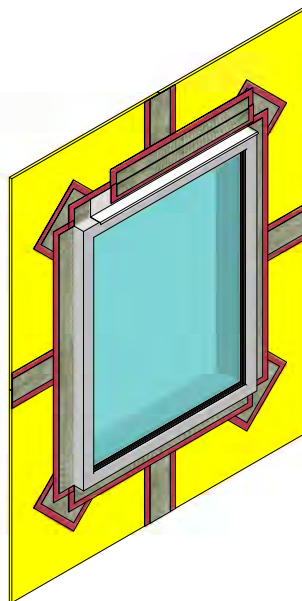

Figure 29
8. Install required accessories such as window head flashing. Apply FLASHING PRIMER over the accessory and onto areas which will receive WS FLASH. Cut WS FLASH to desired size. Remove release film immediately before application. Using a roller firmly press the WS FLASH onto the surface keeping the membrane smooth. (See Figure 29)